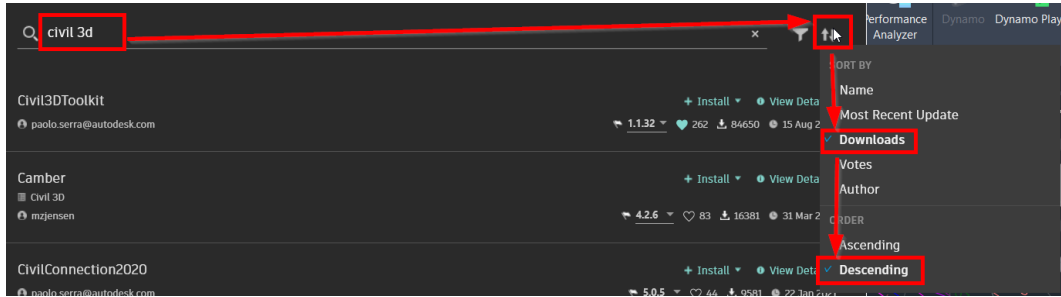

Figure 12.13 – Package Manager dialog box
4. That said, when using the **Search** bar at the top center of the **Package Manager** dialog box, it's recommended to filter using the key words `civil 3d` and apply the **Downloads** and **Descending** sorting options, as shown in *Figure 12.13*.